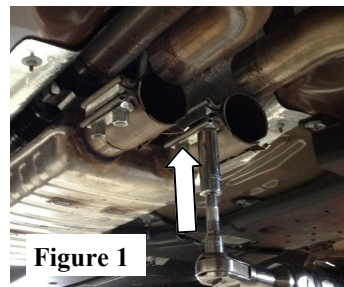

Figure 1
140590, 140591, 140589, 60561 only: Loosen (2) factory band clamps on the front factory mid-muffler. (See Fig. 1)